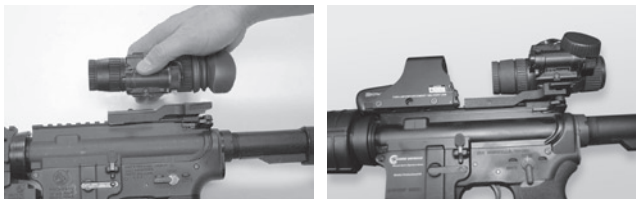

Figure 3.3
2. Align the monocular and the weapon mount. Slide the monocular rearwards until the alignment boss aligns with the alignment groove on the weapon mount. Push until the monocular locks into the weapon mount (Figure 3.3).